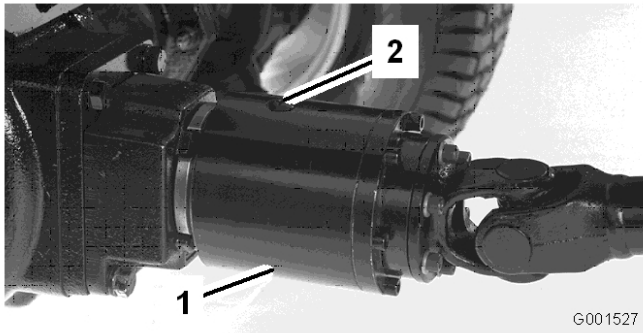

Figure 26
2. Rotate the clutch (Figure 26) so that the check plug (shown in the 12 o'clock position) is positioned at 4 o'clock.